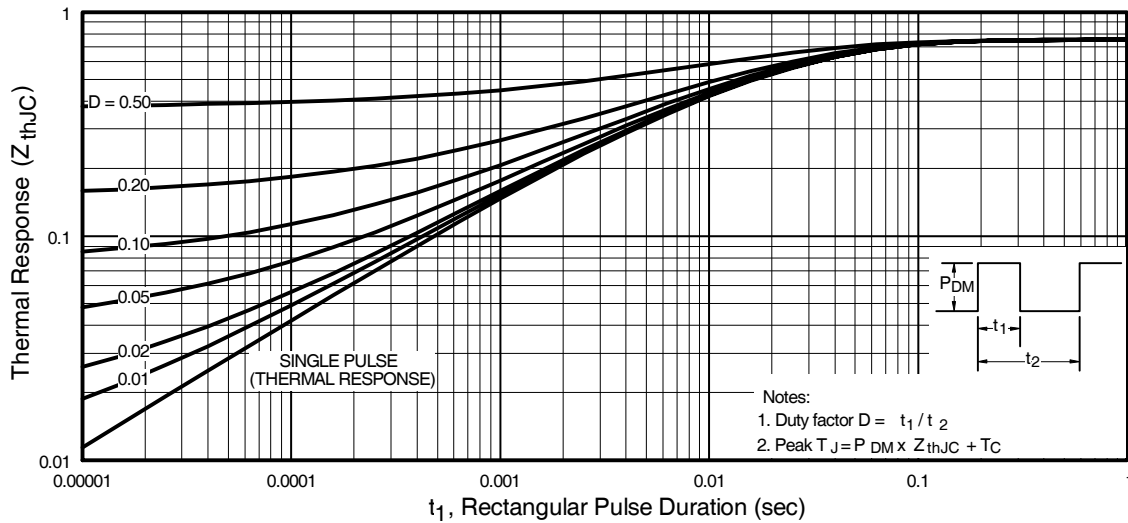

Fig 11. Maximum Effective Transient Thermal Impedance, Junction-to-Case
- ① Repetitive rating; pulse width limited by max. junction temperature. (See fig. 11)
② Starting $T_J = 25^\circ\text{C}$, $L = 0.23mH$